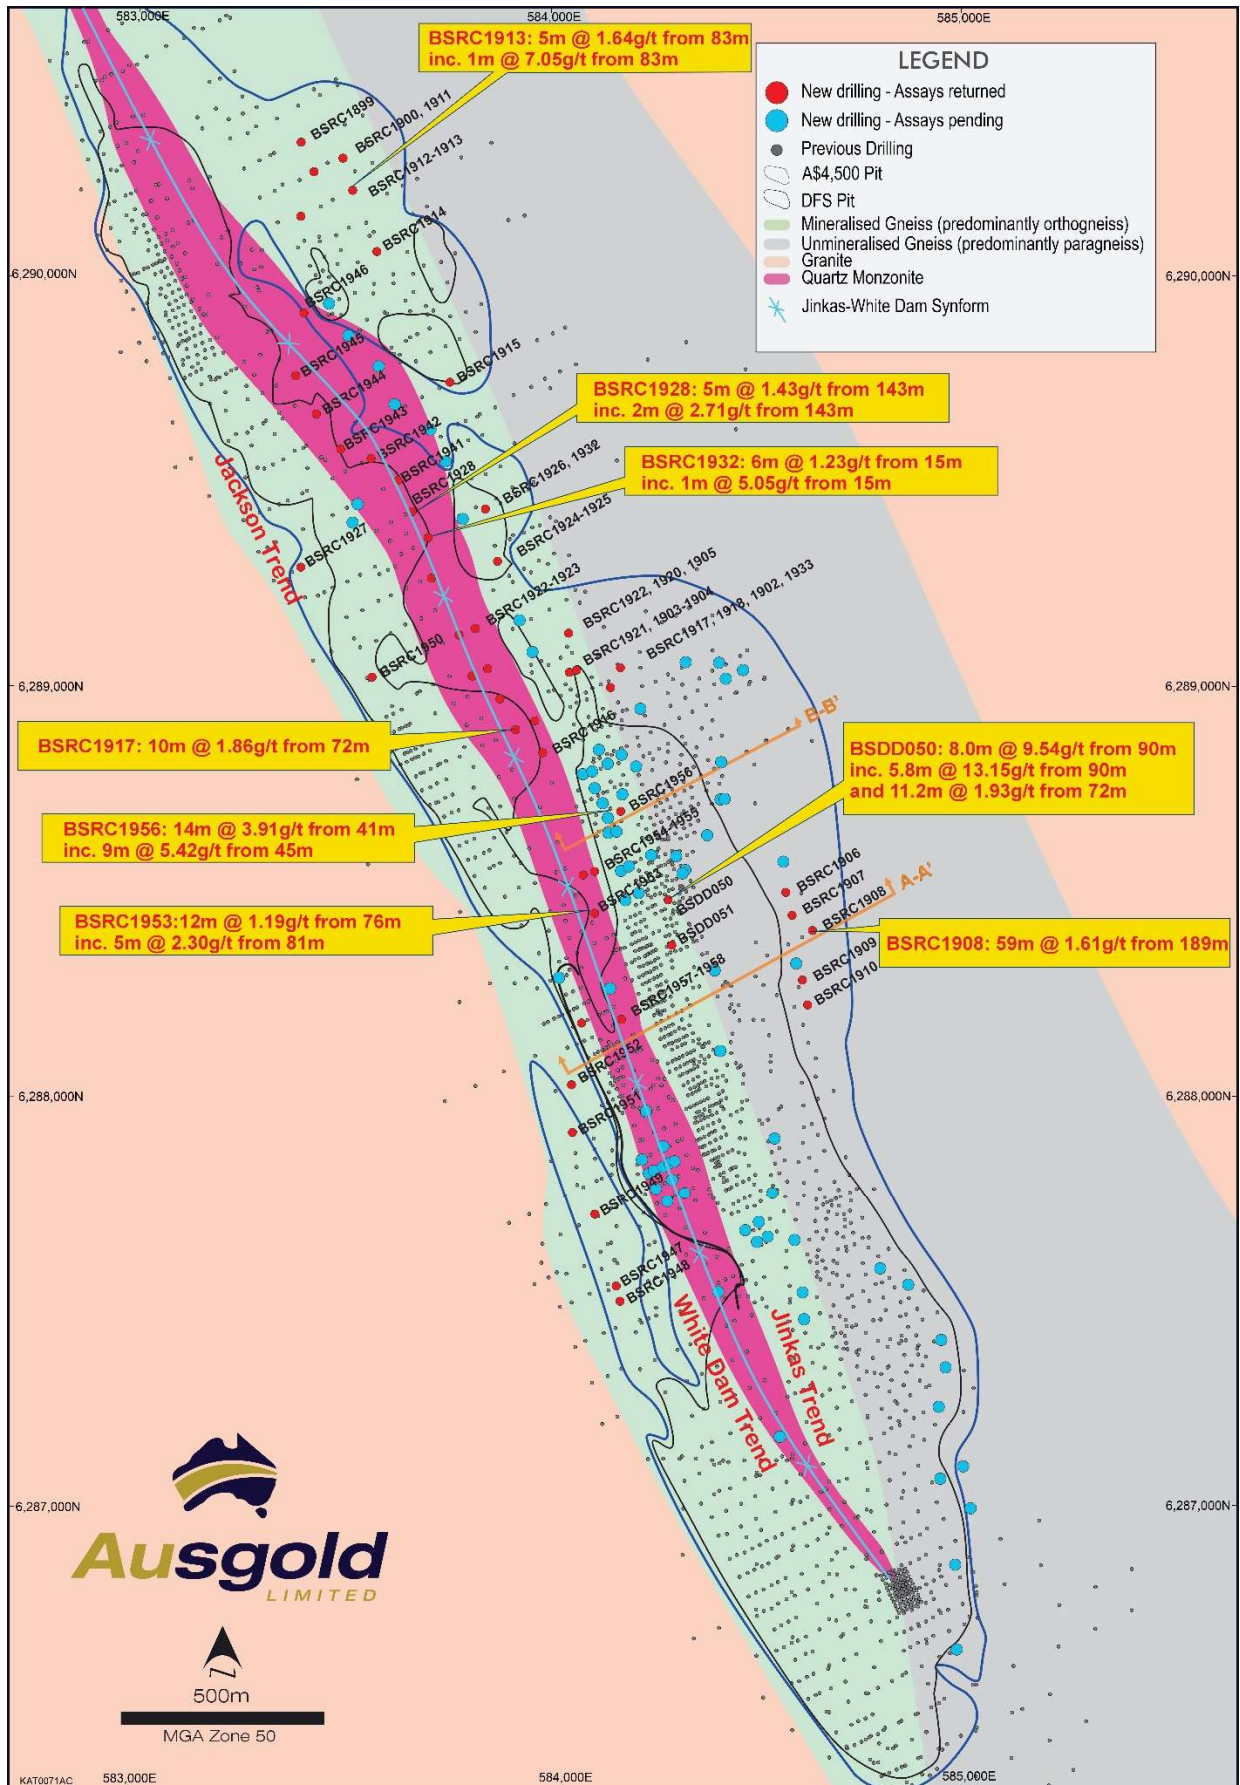
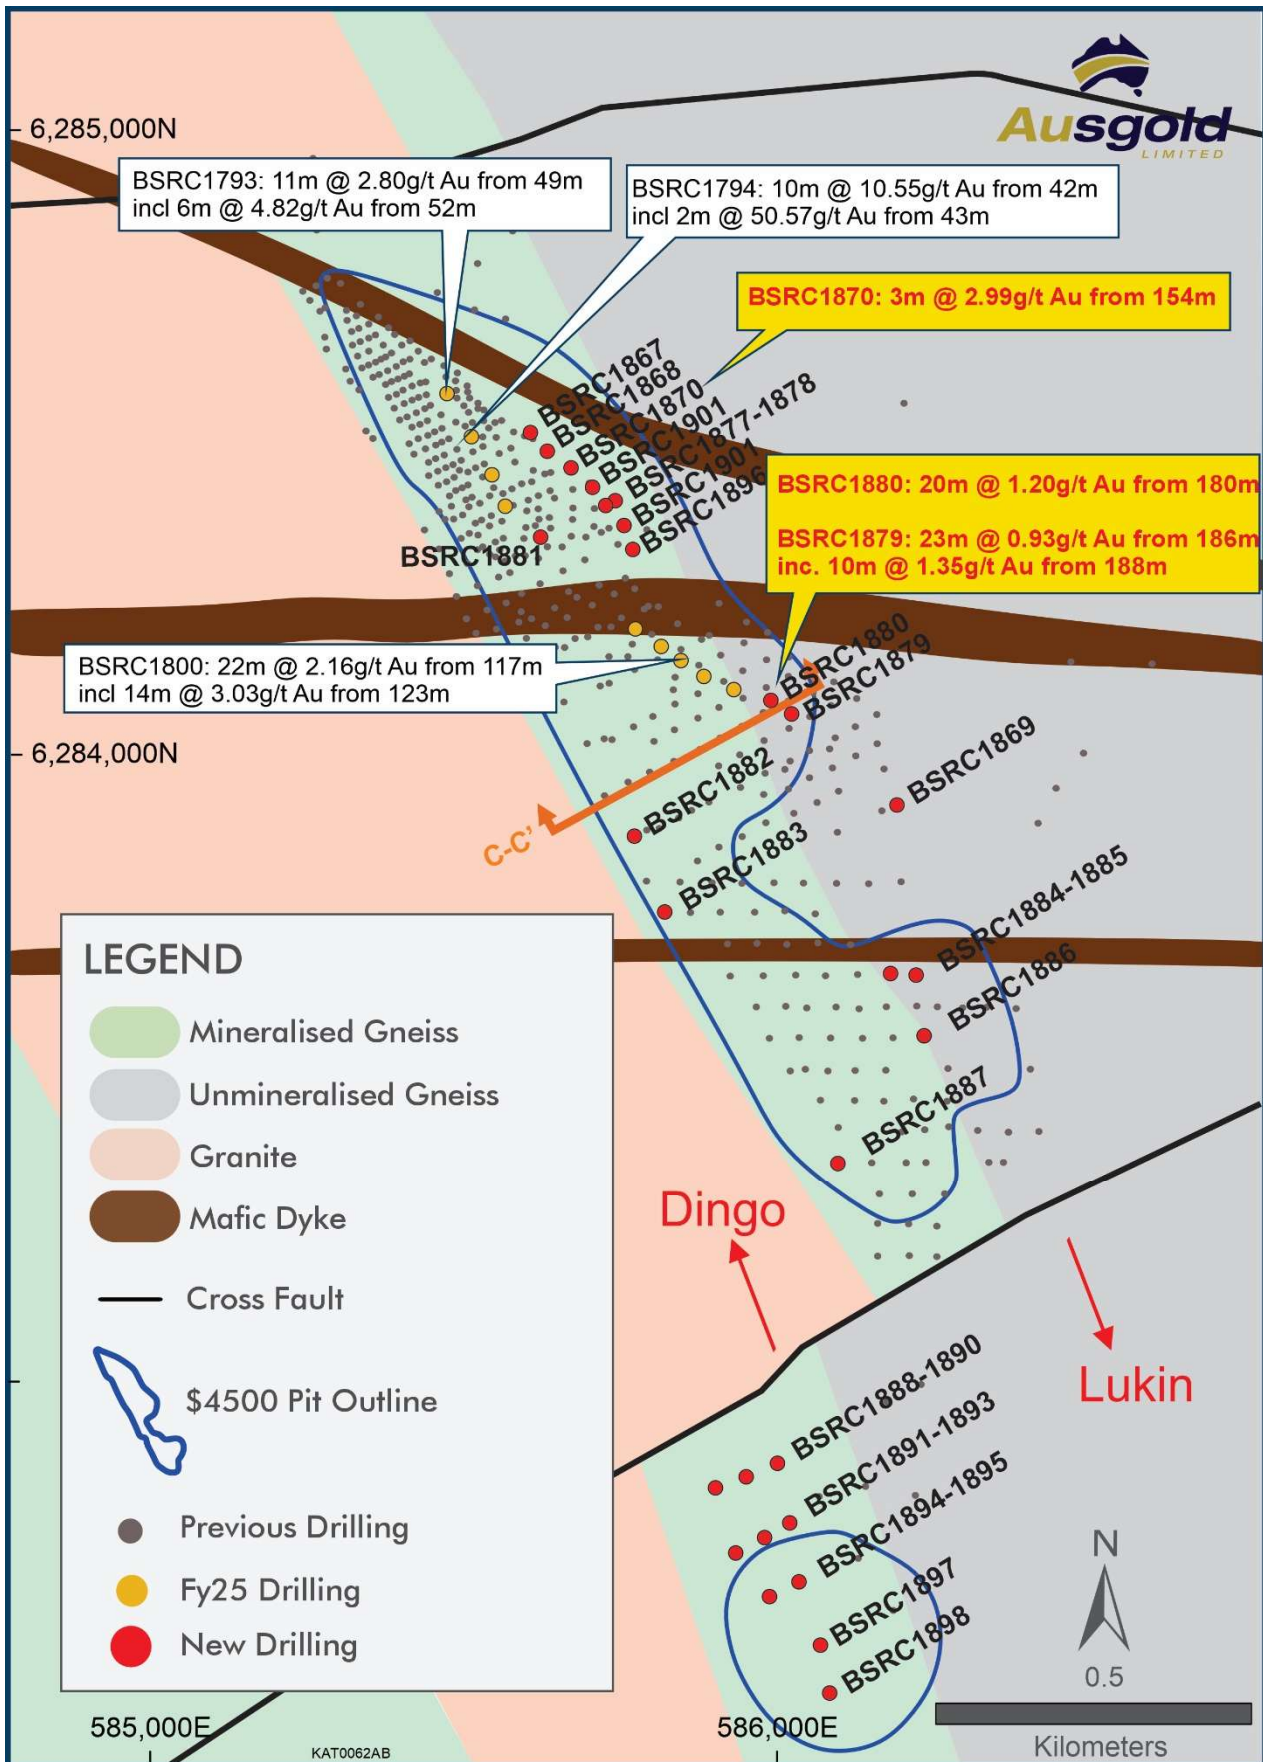

Figure 2 – Geological map of the central portion of the Central Zone displaying new drilling relative to the DFS and A\$4,500 pit outlines
Figure 6 – Geological map of the Southern Zone displaying new drilling relative to A\$4,500 pit outlines
Reverse Circulation (RC) drilling results reported in this announcement comprise 49 holes for 7,917m completed across the Central Zone, with drilling broadly evenly distributed between the Jinkas-White Dam system (including Olympia) and the footwall-hosted Jackson deposit (Figure 2).
Drilling results reported in this announcement are from 28 holes for 3,271m drilled in the Southern Zone, at the Dingo and Lukin deposits (Figure 6). The Southern Zone contains 9% of the total Mineral Resource at the KGP (Figure 1) and represents an excellent opportunity for resource growth via the footwall continuation of the broader mineralising system, which is referred to as the Jackson lode in the Central Zone (Figures 6-7).
These holes complement results from last year (Figure 6) which are yet to be integrated into an updated Mineral Resource Estimate. Results from these holes include⁶:
- **10m @ 10.55g/t Au from 42m including 2m @ 50.57g/t Au from 43m in BSRC1794 (Figure 6)**
- **22m @ 2.16g/t Au from 117m including 14m @ 3.03g/t Au from 123m in BSRC1800 (Figure 6)**
Figure 1 – Plan map of the Katanning Gold Project with the Resource Block Model, \$A4,500 pit outline, an inset (Figure 2 and Figure 6) of area of drilling results and current granted tenements